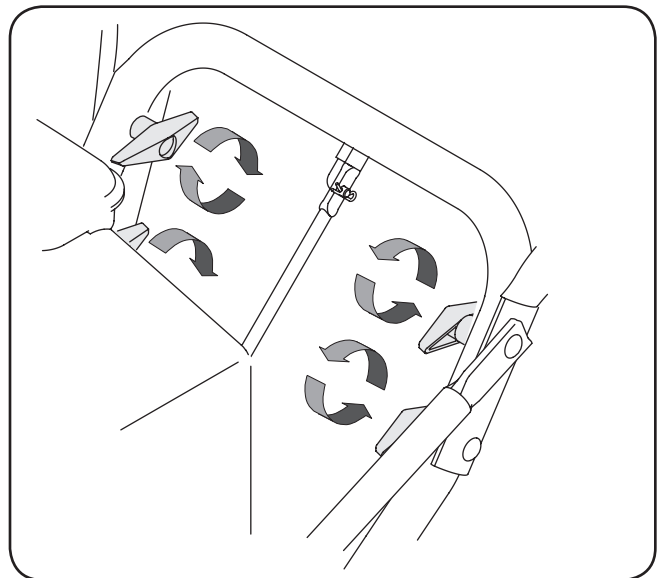

Figure 3-2
4. Secure the upper handle and lower handle with the two wing nuts and carriage bolts removed earlier. Tighten the two wing nuts already installed in the upper holes to firmly secure the upper handle and support tubes. See Figure 3-2.